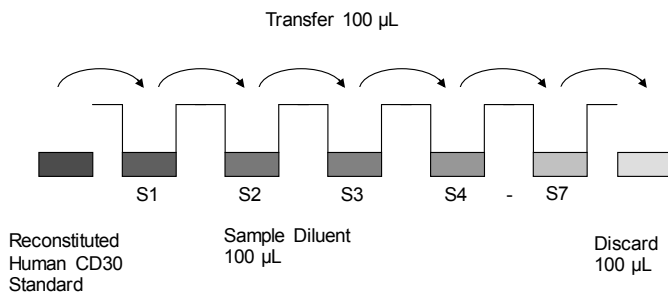

Fig. 6 Dilute standards - microwell plate
- Standard dilution on the microwell plate (Alternatively the standard dilution can be prepared in tubes - see "External standard dilution" on page 3): Add 100 μL of Sample Diluent in duplicate to all standard wells. Pipette 100 μL of prepared standard (see "Human CD30 standard" on page 3, concentration = 200.0 ng/mL) in duplicate into well A1 and A2 (see Table 1). Mix the contents of wells A1 and A2 by repeated aspiration and ejection (concentration of standard 1, S1 = 100.0 ng/mL), and transfer 100 μL to wells B1 and B2, respectively (see Figure 6). Take care not to scratch the inner surface of the microwells. Continue this procedure 5 times, creating two rows of human CD30 standard dilutions ranging from 100.0 to 1.6 ng/mL. Discard 100 μL of the contents from the last microwells (G1, G2) used.